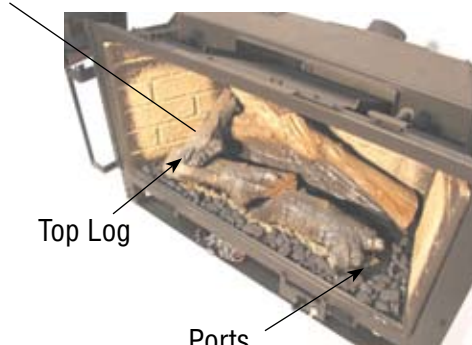

Figure 11
5. Place top log on pin. See Figure 11.
6. Place black embers around perimeter of mineral wool. Important!!! Do not cover ports with black embers. See Figure 11.